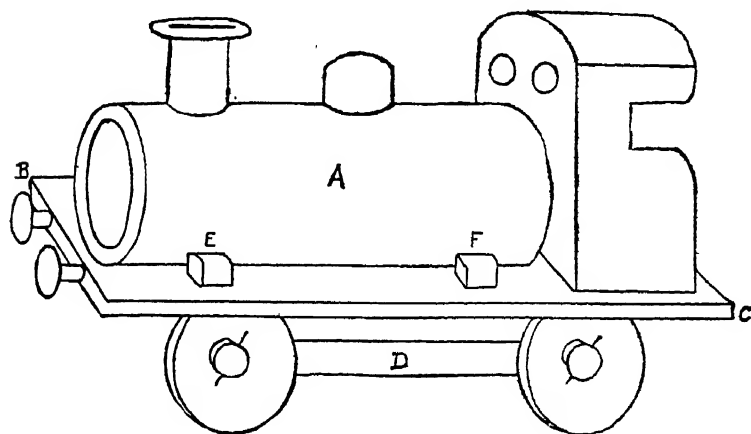
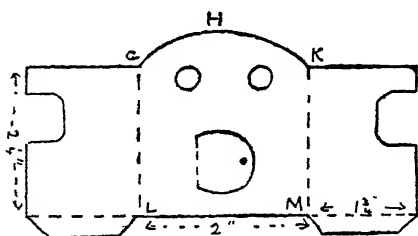

FIG. 230
Fig. 231
A Train. (1) *The Engine* (Fig. 230). The body of the engine, A, is a long mantle-box or a piece of old curtain pole, about $4\frac{1}{2}$ inches long. The wooden bottom, B C, is $6\frac{1}{2}$ inches by $2\frac{1}{4}$ inches. A is glued to B C and kept in position by wooden blocks, E and F. The funnel and the dome are made from corks or pieces of round wood; their ends must be slightly concave, so that they may fit securely to A. A ring of cardboard is gummed to the top of the funnel, which may
The cab is made of cardboard, as shown in Fig. 231, and is coloured to match the engine. G K L M is gummed to the back of A (Fig. 230), and its sides are fastened to the footplate by the flanges.
cardboard, coloured black (D in Fig. 230), are glued to the wooden blocks behind the wheels.